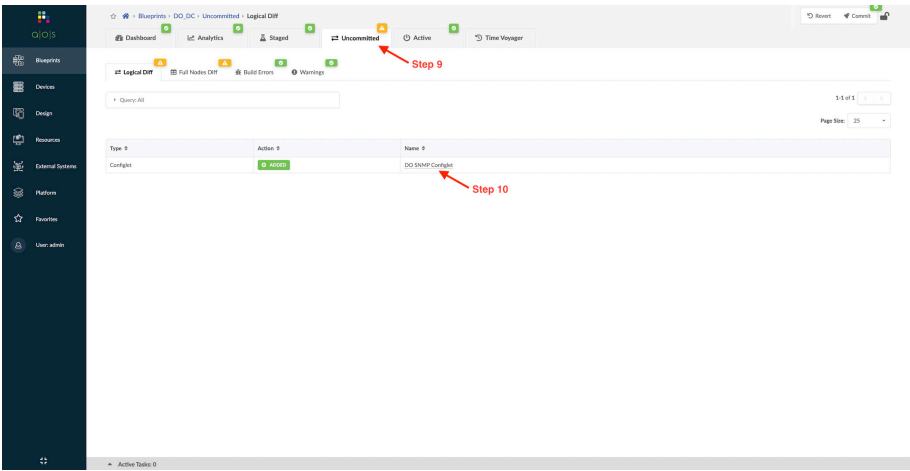

Figure 7.7 Reviewing a Staged Configlet
- Step 9: Go to Uncommitted. See Figure 7.7.